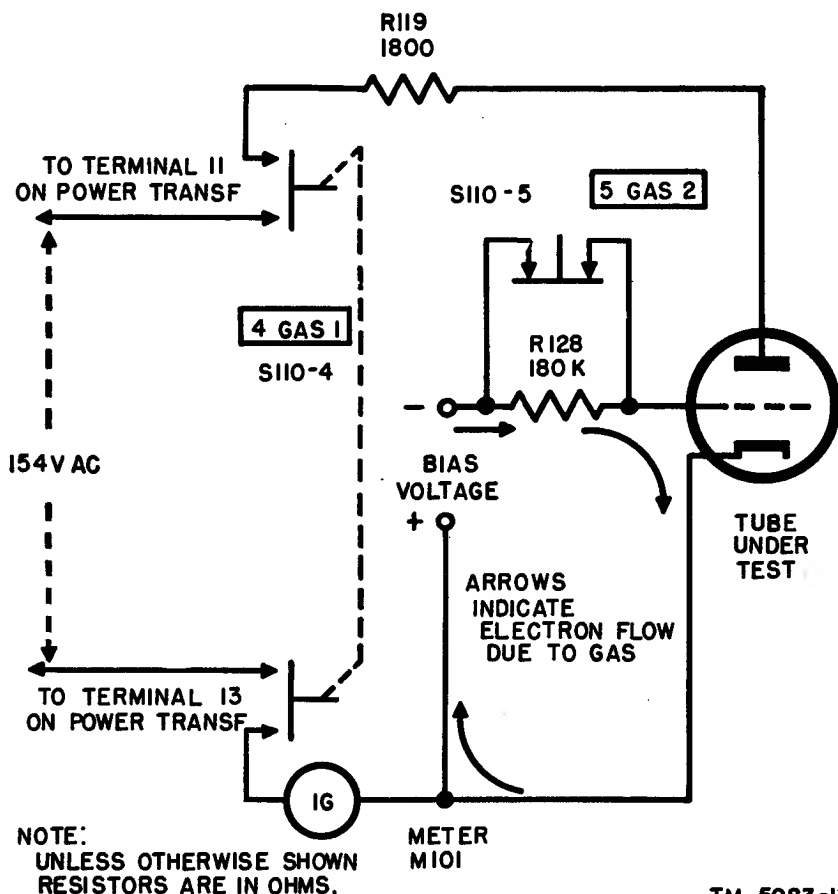

Figure 18. Simplified gas test circuit.
g. Gas Test Circuit (fig. 18).
- (1) Press 4—GAS 1 push button. A definite value of plate voltage and grid bias voltage is applied to the tube under test and causes a definite value of plate current to flow. This current is indicated on the meter (M101).
- (2) Press 5—GAS 2 push button. A 180,000-ohm resistor (R128) is inserted in the grid circuit. If grid current flows from the bias voltage source through the grid circuit to the cathode, due to gas in the tube, the current will develop a voltage drop across resistor R128. This voltage drop reduces the negative bias on the grid and causes a corresponding increase in the plate current which is measured by the meter (M101).